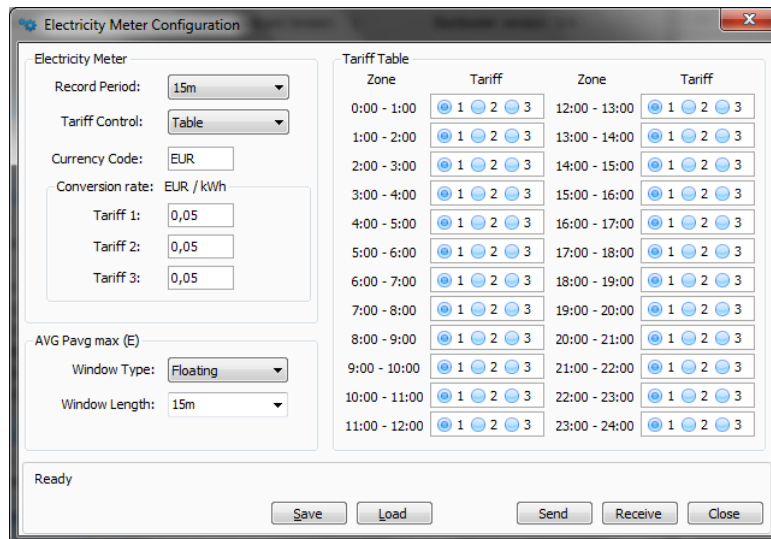

Figure 8: ENVIS.Daq - Electricity meter configuration window
**Electricity Meter (see fig. 8)** for measuring the electrical energy NEMO use standalone functional unit, so called electricity meter. In addition to electric energy, this unit records the maximum and average active powers. Electric energy is only recorded for the first four currents (Feeder F1).